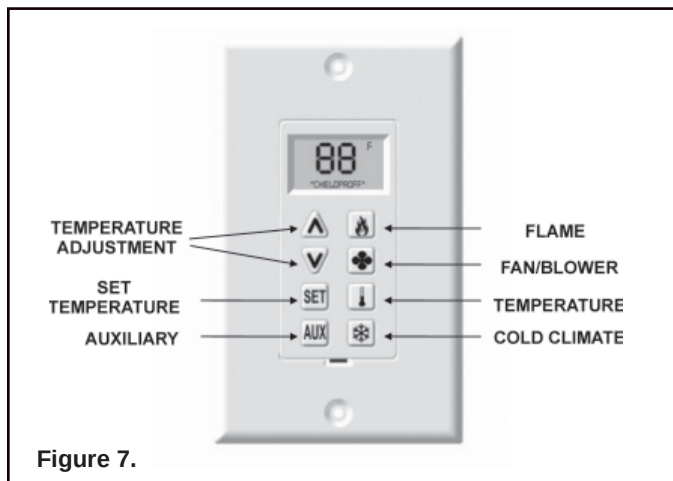

Figure 7.
- Press flame button once (Fig. 7); fireplace will light with flames on high.
- Turn solenoid clockwise to increase pressure, counter-clockwise to decrease pressure until manifold pressure on high is 3.5” water column for natural gas (NG), 10.0” water column for propane (LP).
(Refer to Figure 7)